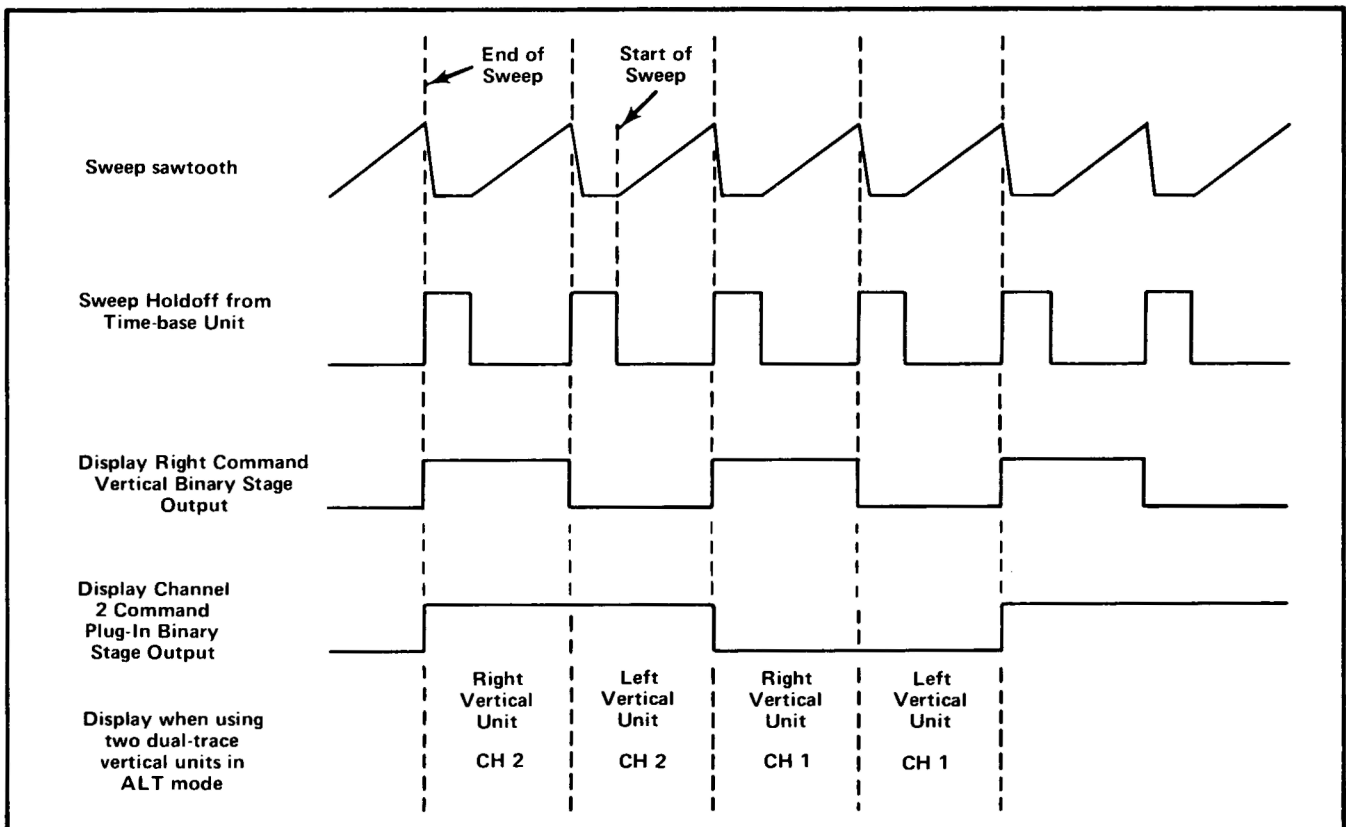
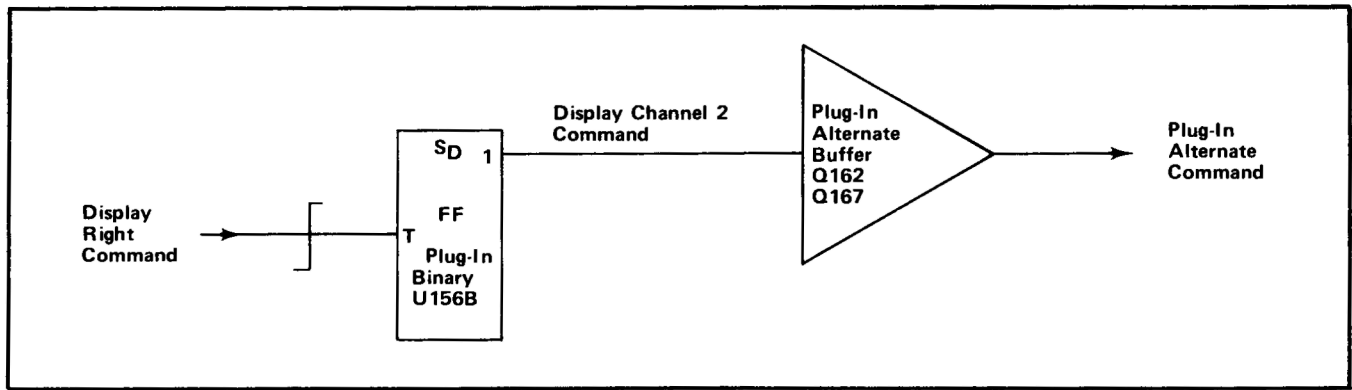

Fig. 3-11. Idealized waveforms showing relationship between input and output waveforms for Vertical Binary and Plug-In Binary stages when operating in ALT mode.
Fig. 3-12. Logic diagram of Plug-In Binary and Plug-In Alternate Buffer stages.
The operation of the Vertical Binary stage is controlled by the level of the ALT Mode line from the VERT MODE switch. When this switch is set to ALT, a HI level is connected to the emitter of Q150 through R152. This HI level disables Q150 so its collector remains HI. As a result, Q150 has no effect upon operation of the Vertical Binary stage and the direct-clear input of U156A remains HI so it does not affect the operation of U156A. Therefore, U156A operates as a basic triggered flip-flop which changes output states with each positive-going Sweep Holdoff pulse at the trigger (T) input. The Sweep Holdoff pulse goes positive at the end of each sweep. The signal at the "1" output of U156A switches between the HI and LO level at one-half the rate of the Sweep Holdoff signal from the horizontal plug-in unit. Fig. 3-11 shows the time relationship between the input and output signals for this stage, and gives the resultant display with each signal combination.
The Plug-In Binary stage consists of U156B, which is connected as a triggered flip-flop with direct-set input. The trigger input for this stage is the Display Right Command from the Vertical Binary stage. When the VERT MODE switch is set to ALT, the repetition rate of the Display Channel 2 Command output of this stage is one-fourth of the Sweep Holdoff input (see waveforms in Fig. 3-11). For any position of the VERT MODE switch except ALT, the repetition rate of the output signal from this stage is one-half of the Sweep Holdoff input. A logic diagram of the Plug-In Binary stage is shown in Fig. 3-12.